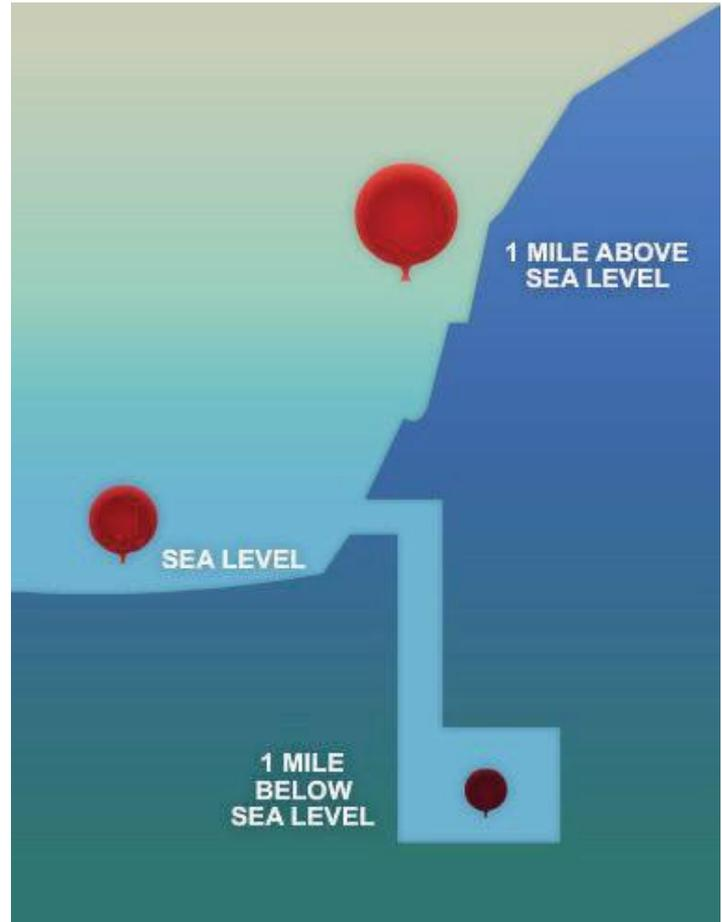

Figure 2-6 — Pressure differential in respect to sea level.
- Boyle’s law—when the temperature is held constant, an increase in the pressure on a gas causes a proportional decrease in volume. A decrease in the pressure causes a proportional increase in volume, as shown in *Figure 2-6*. At sea level, the balloon has a given volume with respect to temperature and atmospheric pressure. As the balloon descends 1 mile below sea level, the volume of the balloon decreases due to increased atmospheric pressure. Conversely, as the balloon ascends to 1 mile above sea level, the balloon expands as the atmospheric pressure decreases.